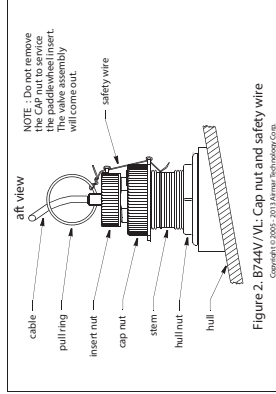

Figure 2. B744V/VL Cap nut and safety wire
Being sure the valve assembly is seated firmly within the housing, carefully screw the CAP nut in place (Figure 2). Hand-tighten only. Do not over tighten.
- Attach the safety wire to prevent the insert from backing out in the unlikely event that the cap nut and/or insert nut falls or is screwed on incorrectly. Wrap one end of the safety wire tightly around the stem of the housing and twist it together with the long end (Figure 2). Keeping the wire taut throughout, lead the wire straight up and through one eye in the CAP nut. Thread the wire through the eye a second time. Lead the wire in a counterclockwise direction and thread it through the eye in the INSERT nut. Thread the wire through that eye a second time. Loop the wire through the pulling ring and twist the wire securely to itself.